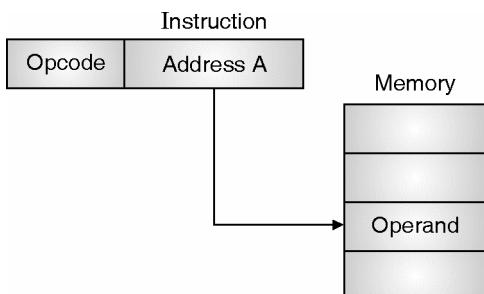

Fig. 10.3.2 : Direct Addressing mode
- Fig. 10.3.2 shows the structure of the instruction and operand access technique for the direct addressing mode.